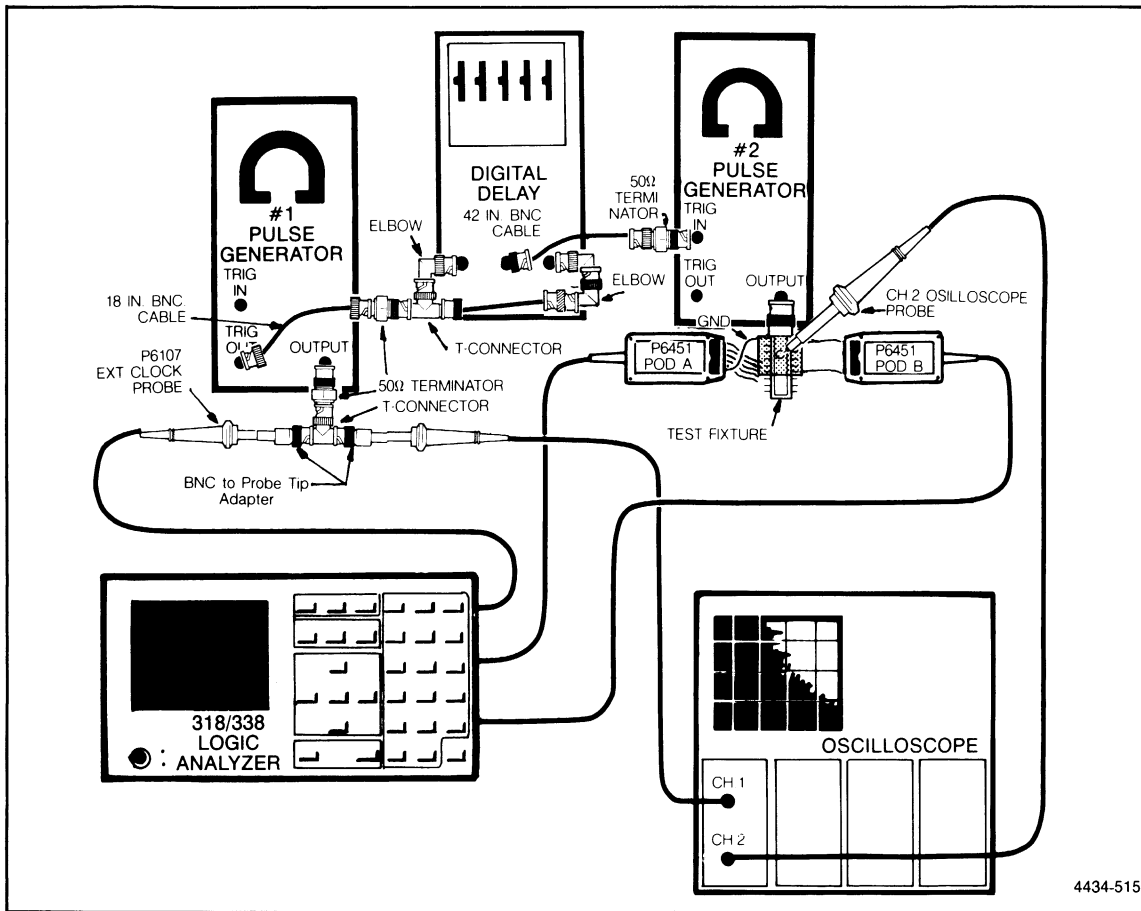

Figure 5-28. 318 Parallel data acquisition test setup.
Refer to Figure 5-28.
3. Connect a BNC elbow to the Digital Delay's EVENTS INPUT. Connect a BNC T-connector to the elbow. Connect one side of the T-connector to the #1 pulse generator's + TRIG OUT using an 18 inch BNC cable and a 50 Ω terminator. Connect the other side of the Digital Delay's BNC T-connector to the Digital Delay's START INPUT (see Figure 5-28). Using 2 BNC elbows and a BNC female-to-female connector will help here.